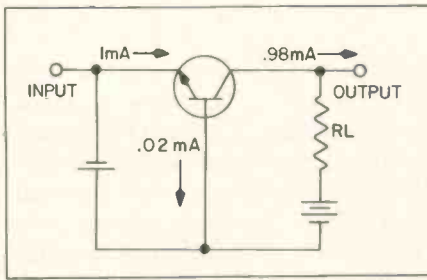
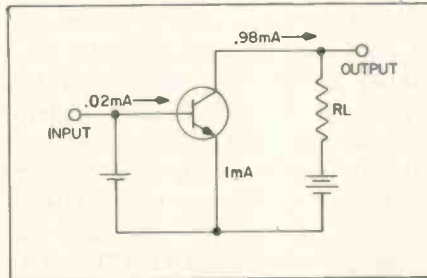

Fig. 1—Transistor connected in common-base circuit.
Fig. 2—Transistor connected in common-emitter circuit.
■ Bipolar transistors are current-operated devices. Their ability to provide current, voltage or power amplification is dependent on the degree to which current in their input element can control current in their output element. This ability is called *forward current transfer ratio* and is referred to as *alpha* if the transistor is connected in a common-base configuration (Fig. 1) and *beta* if the transistor is connected in a common-emitter configuration (Fig. 2).
Alpha is determined with the transistor connected in the common-base configuration, as shown in Fig. 1. The *input* element in this configuration is the *emitter*, and the output element is the collector. The formula for computing DC alpha is I_C/I_E . The DC alpha for the tran-
sistor in Fig. 1 is .98mA divided by 1mA, or .98. (In the common-base circuit, current gain is always less than 1.)
If the same transistor is connected in the common-emitter configuration in Fig. 2, as it is for beta measurement, the *input* element is the *base*, and the output element is the collector. The formula for computing DC beta is I_C/I_B . The beta of the transistor in Fig. 2 is .98 mA divided by .02mA, or 49.
Converting the alpha of the transistor in Fig. 1 to beta, we find that it is:
Converting the beta of the transistor in Fig. 2 to alpha, we find that it is: